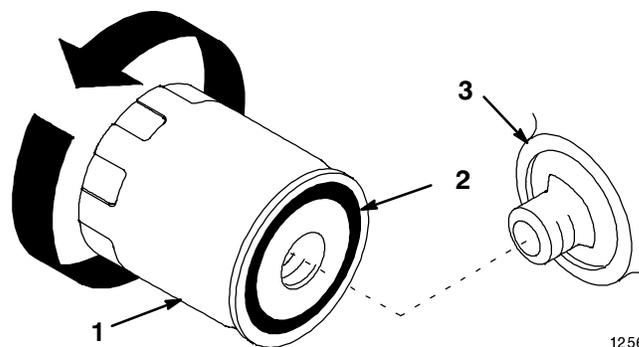

Figure 32
6. Change oil filter (Fig. 32).
- Remove the old filter and wipe the filter adapter (Fig. 32) gasket surface.
- Apply a thin coat of new oil to the rubber gasket on the replacement filter (Fig. 32).
- Install the replacement oil filter to the filter adapter. Turn the oil filter clockwise until the rubber gasket contacts the filter adapter, then tighten the filter an additional 1/2 turn (Fig. 32).